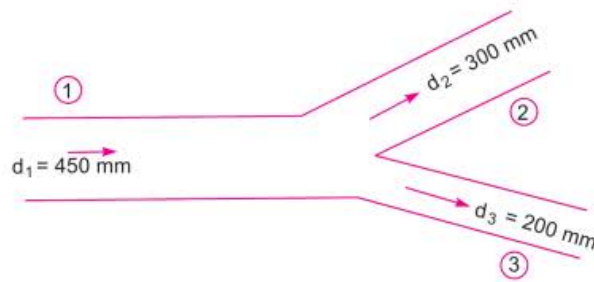

Fig. 5.57
34. A pipe (1) 450 mm in diameter branches into two pipes (2) and (3) of diameters 300 mm and 200 mm respectively as shown in Fig. 5.57. If the average velocity in 450 mm diameter pipe is 3 m/s, find :